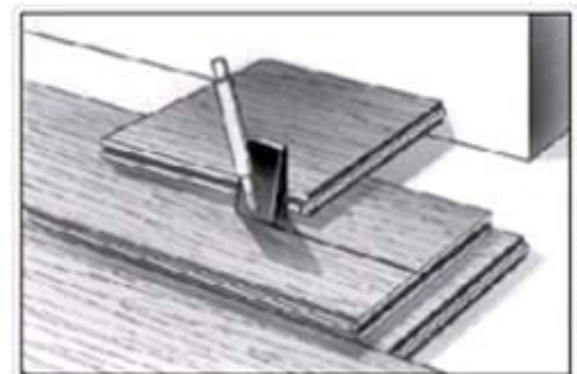

Fig. 17
17. Place the row of planks to be fit on top of the last row of installed planks. Use a divider or a piece of the plank as a scribe to trace the contour of the wall (Fig. 17).
18. Be sure to place a spacer between the marking pen and "scribe" piece of board. This adds the 1/4" (6.35 mm) to 1/2" (12.7 mm) space you need at the finish wall (Fig. 17).